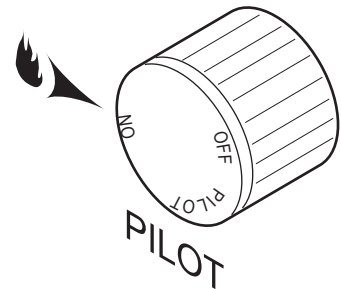

Figure 48 - On Position
Depress and turn the knob counterclockwise ↺ to the “ON” position. *Figure 48*. It will take less than four (4) seconds for the burner to ignite.